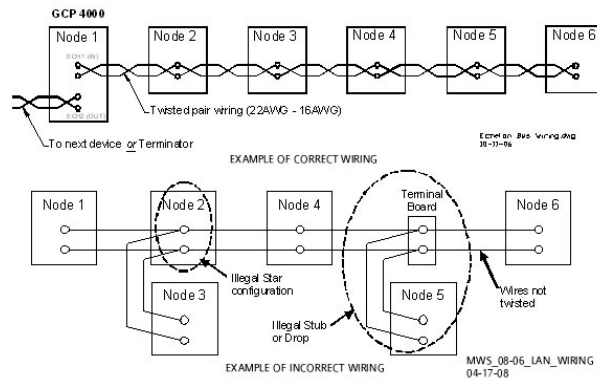

Figure 12: Echelon LAN Wiring Examples
- Each connection (node) must be wired in a daisy-chained bus configuration, no drops allowed (see Figure 12).